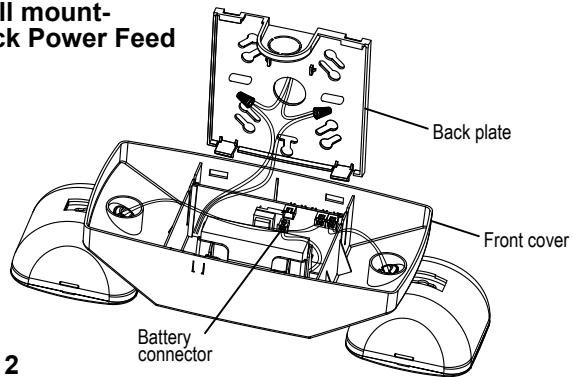

Fig 2
## Wall Mount - Back Power Feed (see Fig 2)
6. Connect battery connector.(see Fig 2).